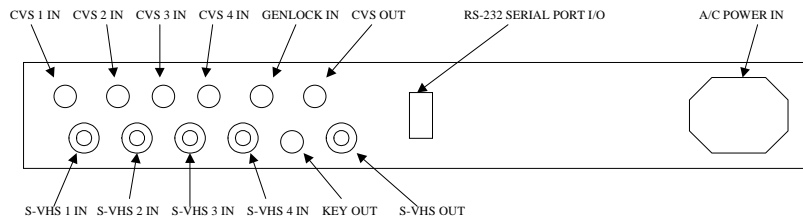

Figure 1b—I/O Connector View
Step 2—If operating the unit via serial control, make the necessary cable connections. (see fig. 1b, 2a, 2b for serial port connections)
Step 3—Connect your video equipment to the QS-440 input and output connectors existing in the rear chassis. (See fig. 1b for I/O connector locations)
The Genlock input (see fig. 1b) is used to lock the output to a stable external reference, such as a black burst generator, a color bar generator, a camera, or an output from a master time base correction unit. The QS-440 has automatic genlock, which is turned on when no genlock source is connected, and off when an external genlock source is connected.
The BNC connector labeled KEY (see fig 1b) allows the QS-440 to be integrated with an existing system through a production switcher. Routing this signal through a switcher enables the operator to key the QS-440 output over other video sources.